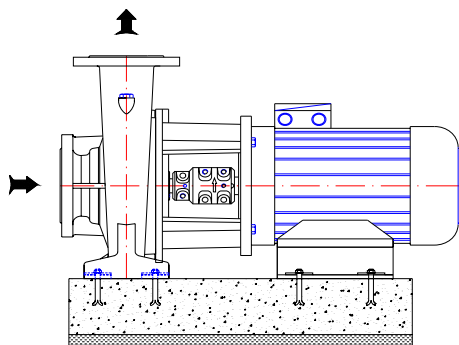

Figure 2 A typical concrete foundation
- Install the pump on the concrete base as illustrated in Figure 2.